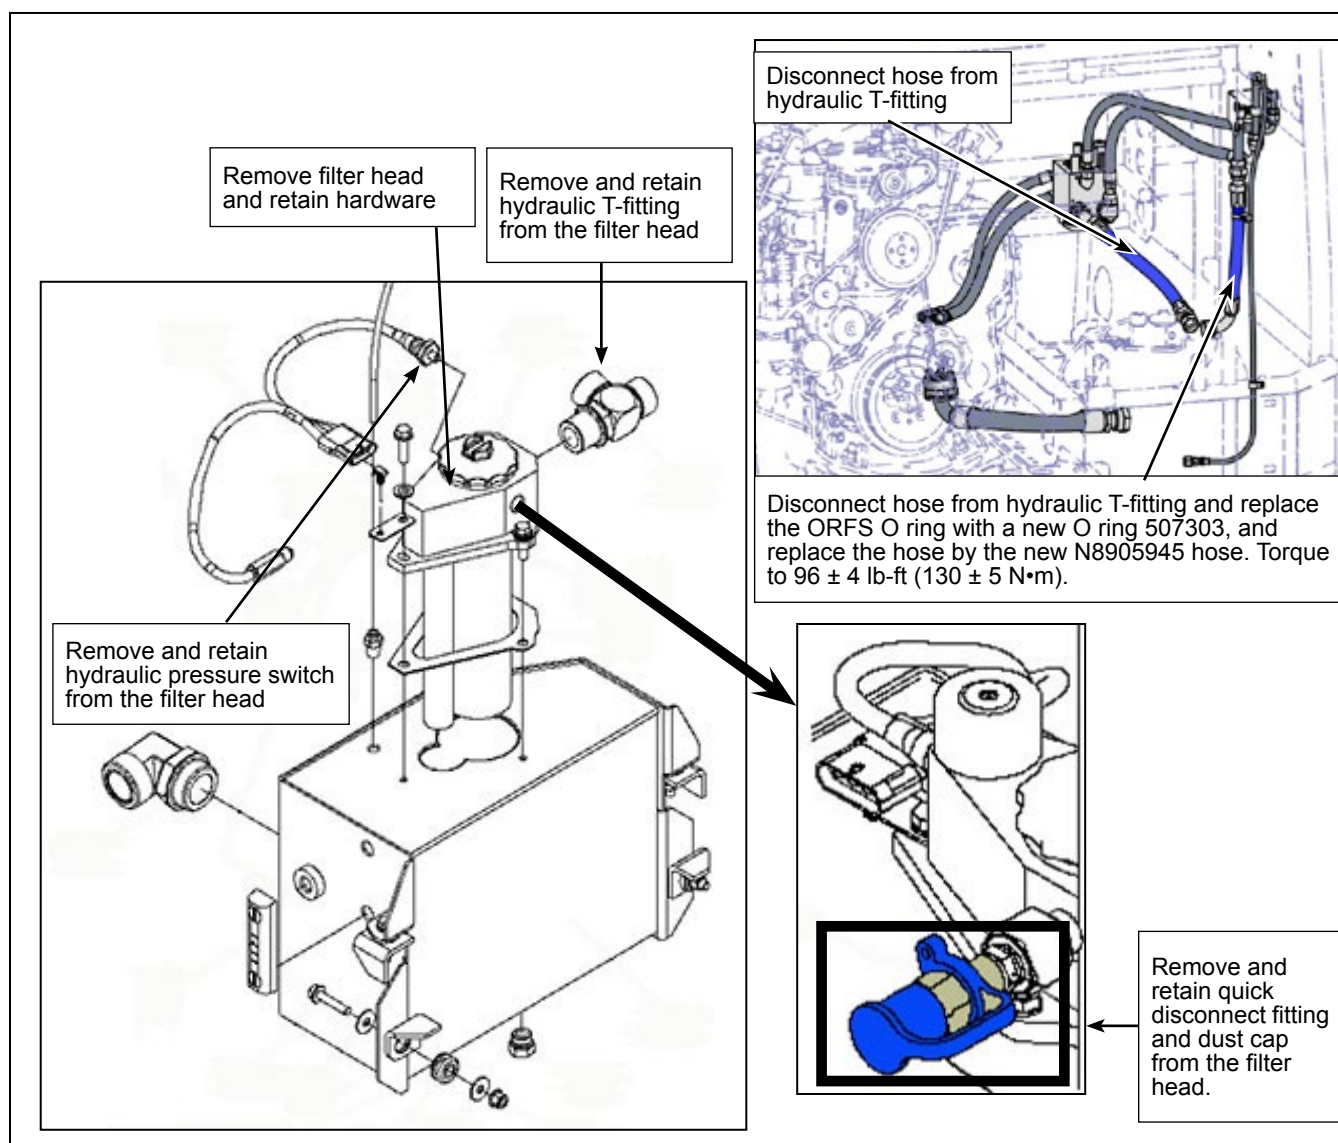

Figure 3 - Hydraulic Parts to Retain for Filter Head and Installation of New Hose
- 1.11. Disconnect the hydraulic hoses from the filter head. Install a clean rag or clean plastic bag at the end of the disconnected hydraulic hoses. See Figure 3.
- 1.12. Disconnect and remove the hydraulic pressure sensor. Retain the pressure sensor. See Figure 3.
- 1.14. Remove the filter head from the hydraulic tank. Retain the hardware and harness support bracket. See Figure 3.
- 1.15. Remove the hydraulic T-fitting from the head filter. Clean and retain the hydraulic T-fitting. See Figure 3.
- 1.16. Remove the hydraulic pressure switch from the filter head. Clean and retain the hydraulic pressure switch. See Figure 3.
- 1.17. Remove the quick disconnect fitting and dust cap from the filter head. Retain the quick disconnect fitting and dust cap. See Figure 3.
- 1.18. Remove the hydraulic hose connected to the hydraulic piping. See Figure 3.
- 1.19. Replace the ORFS O ring on the piping with a new ORFS O ring 507303 and install the new hydraulic hose N8905945 to the Hydraulic piping. See Figure 3 for torque value.